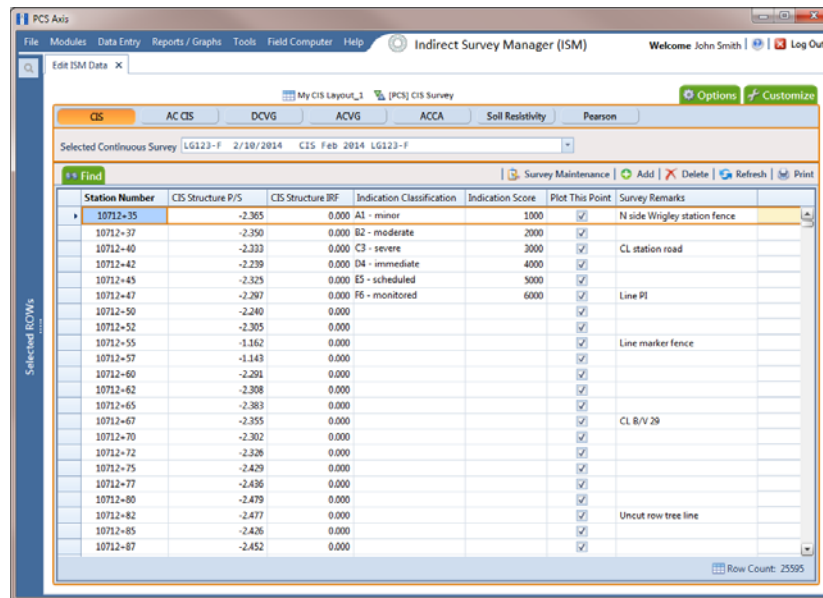

Figure 7-73. Edit ISM Data
- 3 Click **Data Entry > Edit ISM Data** to open the ISM data entry grid. Then click the **CIS** button  to work with a close interval survey (Figure 7-73, page 262).